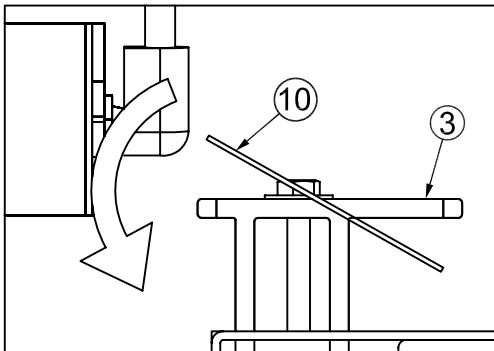

Fig. 10
11. Rotate hole cover (#9) around small tab of J-hook receiver (#3). (See Fig. 10)